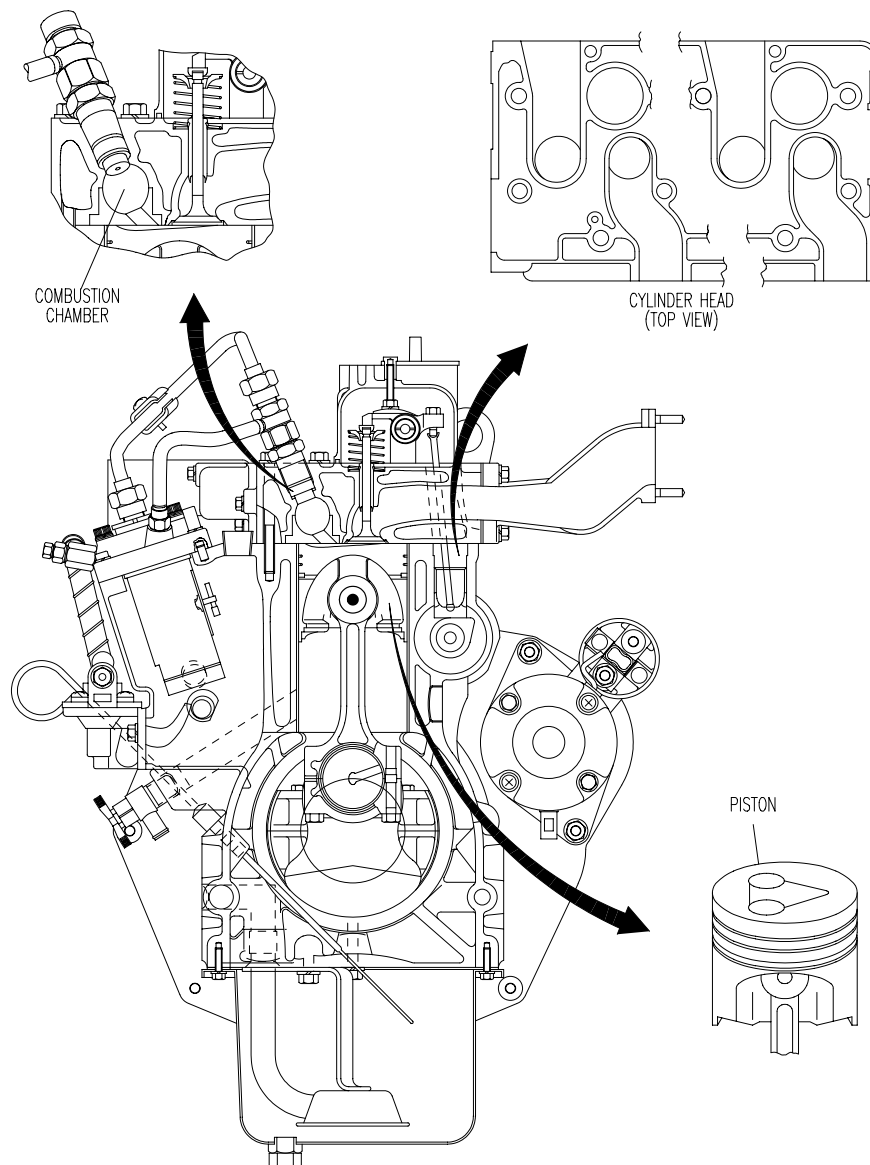

Figure 1-3. Combustion System
1.16.1. Combustion System. The engine operates on the typical diesel combustion cycle (Figure 1-3). To improve efficiency in the APU's small engine, the combustion chamber of each cylinder has a three-lobe throat in the air inlet. This produces three streams of air in the chamber, creating an ideal mixture of air and fuel. The top of each piston has a fan-shaped indentation, allowing smooth ejection of exhaust gas. The cross-flow intake/exhaust ports in this engine have their openings at both sides of the cylinder head. Because overlaps of the intake/exhaust ports are comparatively small, the suction air is protected from being heated and expanded by the heated exhaust air. Therefore, the cool, high density suction air has high volume efficiency and raises the power of the engine. Throttle type injection nozzles and rapid heating sheathed type glow plugs are installed in each cylinder combustion chamber. In addition, a preheating glow plug is installed in the intake manifold. The engine will start easily at 5°F (-14°C).